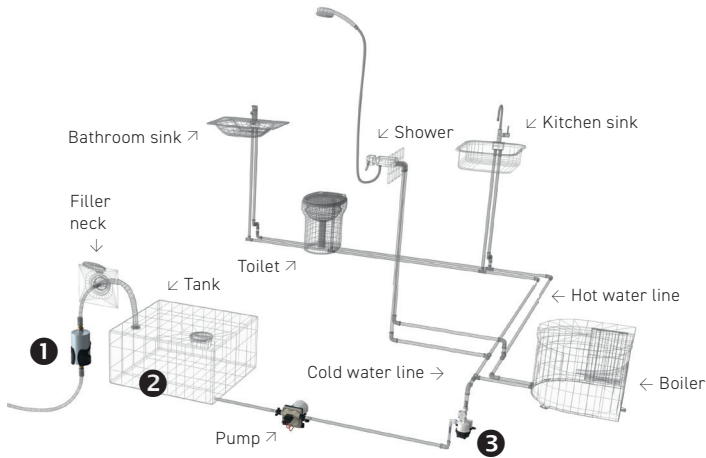

Figure 1: Installation Recommendation in a Mobile Freshwater System
How these risks can be excluded is shown in Figure 1, a practical example of how a freshwater system can be operated holistically hygienically. As a first step, we recommend pre-filtration ❶ (herer: WM Filter), as well as preservation of the water (here: Silvernet Flex) ❷. The preservation extends over the entire freshwater system and reduces re-contamination or additional contamination of the water during storage. Then the water passes through the UV unit and is freshly disinfected at the point of water withdrawal ❸.